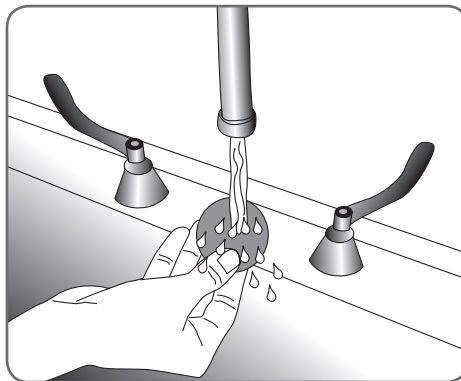

Figure 56: Wetting the cloth electrodes.
4. Wet the new cloth electrodes with tap water until they are saturated. See Figure 56.